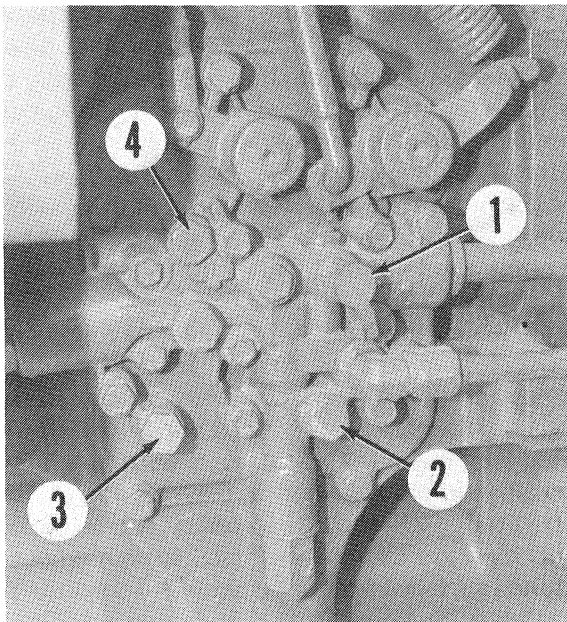

Fig. 4—View of pressure control valve used on Quad-Range models. Install 300 psi (2000 kPa) pressure gage at test port (1) to check system pressure.
To check clutch pressure, install a 300 psi (2000 kPa) pressure gage at system pressure test port (1—Fig. 3 or Fig. 4) on traction clutch valve housing. In-
Fig. 3—When trouble-shooting mechanical front-wheel drive, install a 300 psi (2000 kPa) pressure gage at system pressure test port (1) on traction clutch valve housing. Power shift model is shown; refer to Fig. 4 for Quad-Range models.